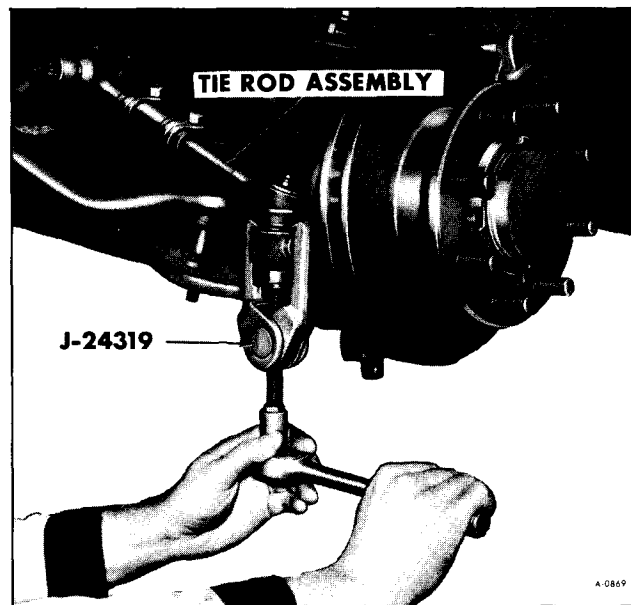

Figure 14—Removing Tie Rod End
6. Using Tool J-21319 remove tie rod end as shown in Figure 14.